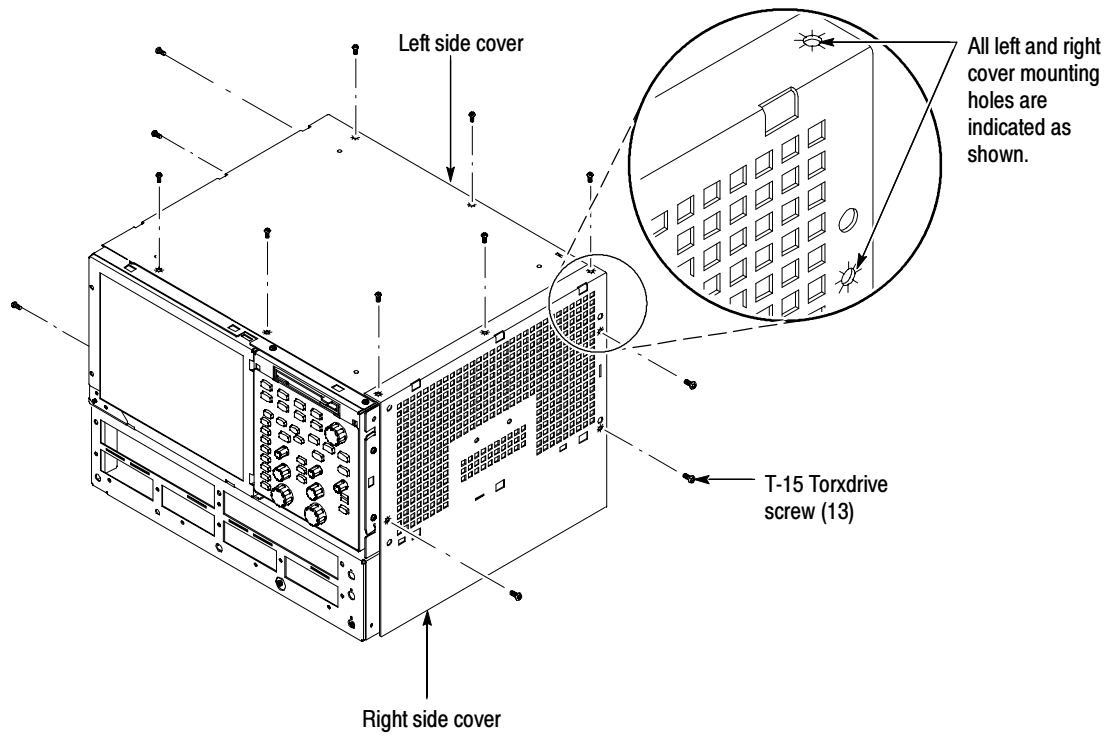

Figure 3: Cover removal
1. *Locate the module to be removed:* Locate the left and right covers. See Figures 3 and 4, pages 13 and 14
3. *Remove the left and right covers:* Use Figures 3 and 4 on pages 13 and 14 as a guide.